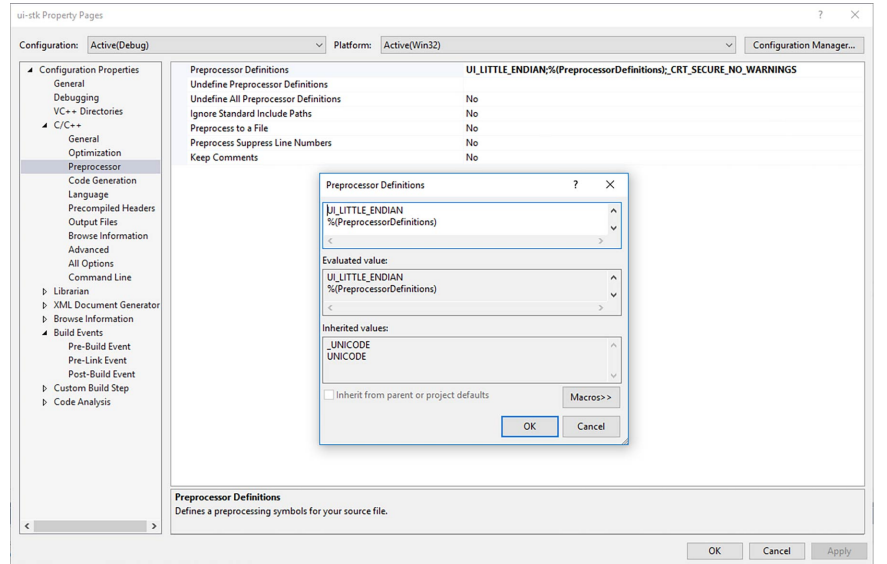

Figure 109. Specifying the Endianness
4. Select **Preprocessor Definitions** (see Figure 109).